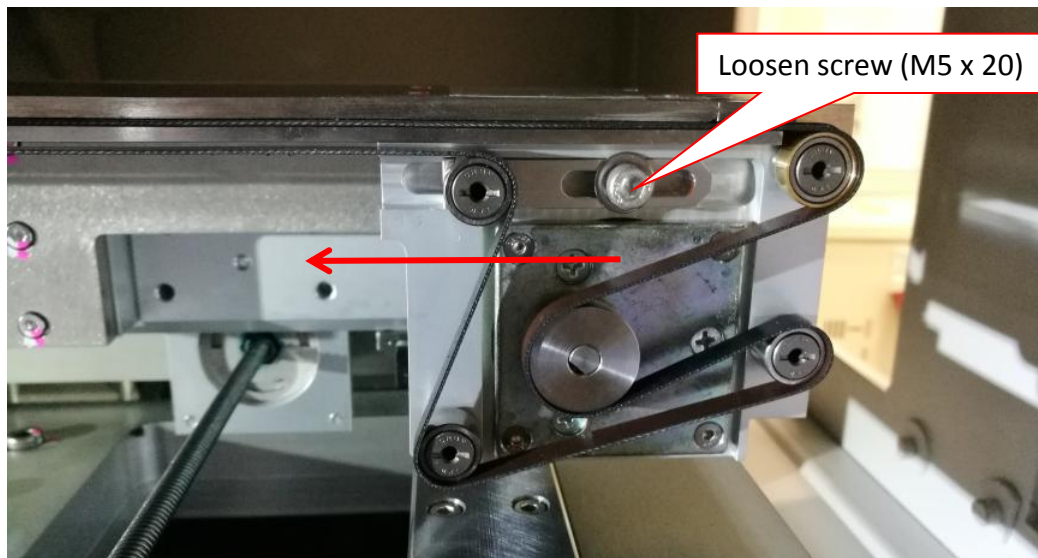

Figure 3 Conveyor Belt Removal
5. Loosen Tension Pulley Screw (M5 x 20) & remove conveyor belt as shown in Figure 3.